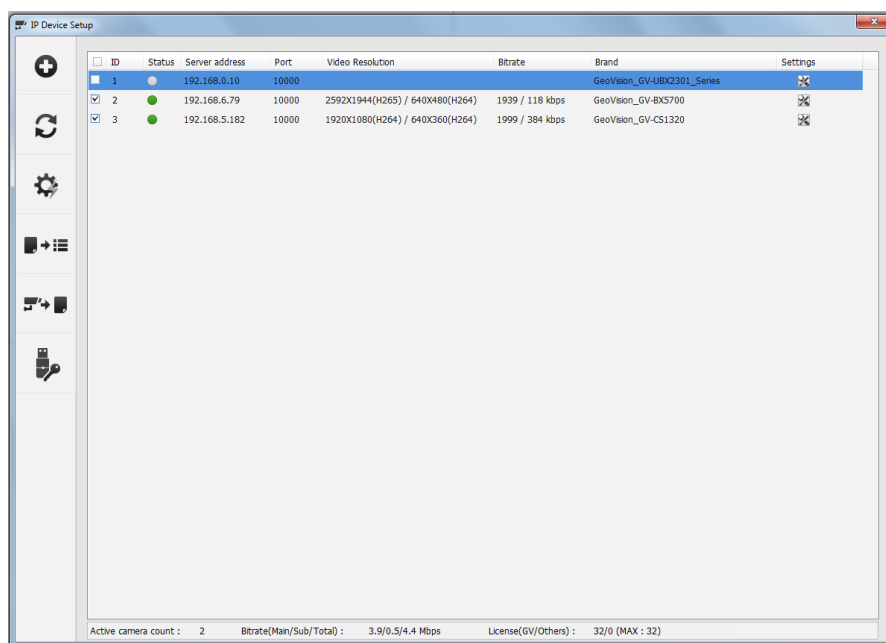

Figure 2-1
5. Click **Apply**. The IP camera is added to the IP Device List and automatically enabled for connection (Figure 2-1).